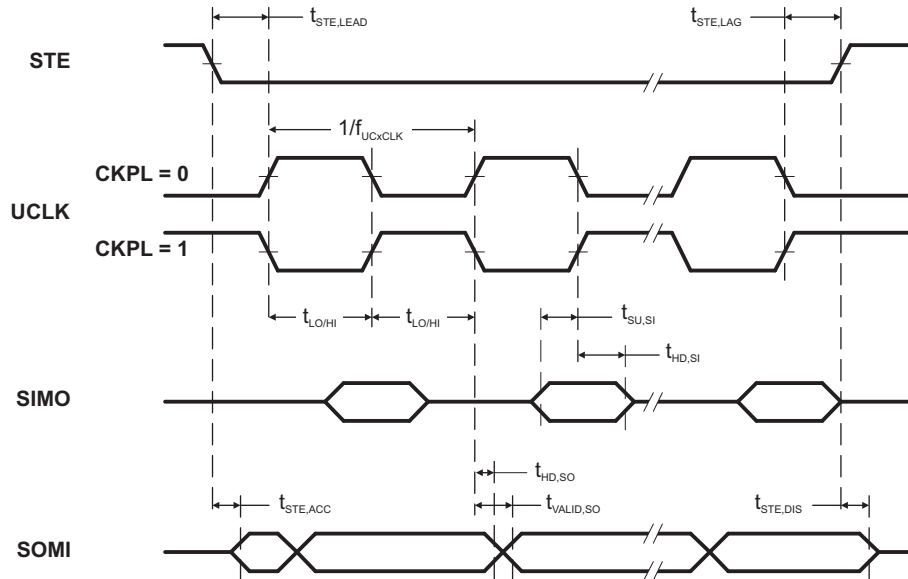
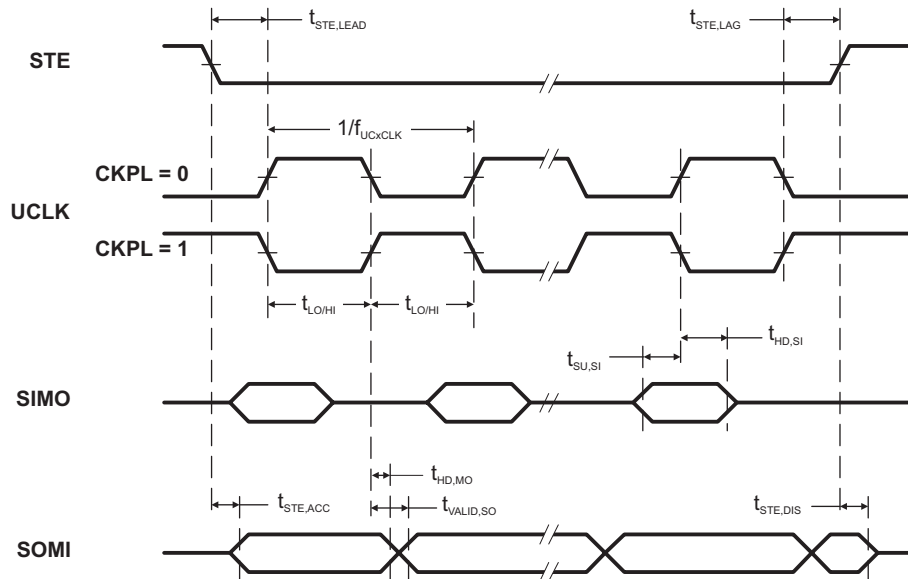

Figure 13. SPI Slave Mode, CKPH = 0
Figure 14. SPI Slave Mode, CKPH = 1
(see Note ⁽¹⁾, Figure 13 and Figure 14)
- (2) Specifies the time to drive the next valid data to the SOMI output after the output changing UCLK clock edge. Refer to the timing diagrams in Figure 13 and Figure 14.
- (3) Specifies how long data on the SOMI output is valid after the output changing UCLK clock edge. Refer to the timing diagrams in Figure 13 and Figure 14.